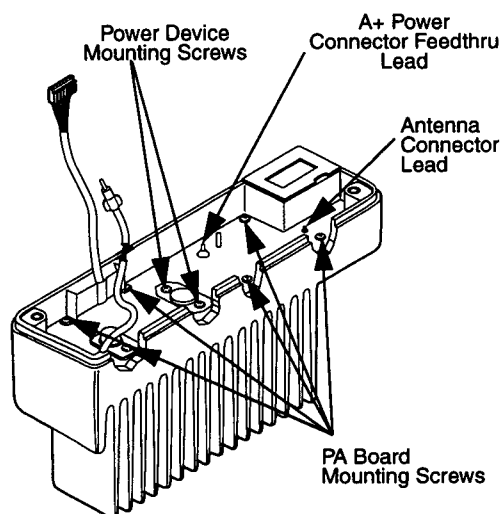

Figure 1-8.
- Unsolder the A+ power connector feed-thru pin and the antenna connector pin (Figure 1-8).
- Remove the two power device mounting screws and the six PA board mounting screws using a T10 Torx driver (Figure 1-8).